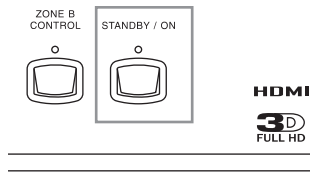

Figure 1
1. Press the STANDBY/ON Push-button on the Front Panel or press the  (Power) Push-button on the Remote Control to switch On the MX151. Refer to figures 1 and 7. The Front Panel Information Display will first indicate "McIntosh MX151" followed by "Initializing, Please wait..."